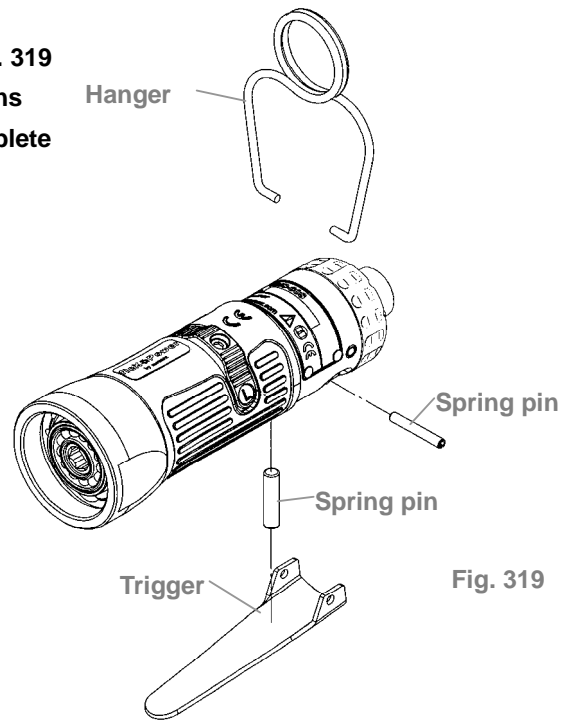

Fig. 319
4.1 Install the parts of the trigger set orderly (see Fig. 319 drawing for reference). Then, Insert the spring pins to fix all the parts. And, install the hanger to complete the assembly.